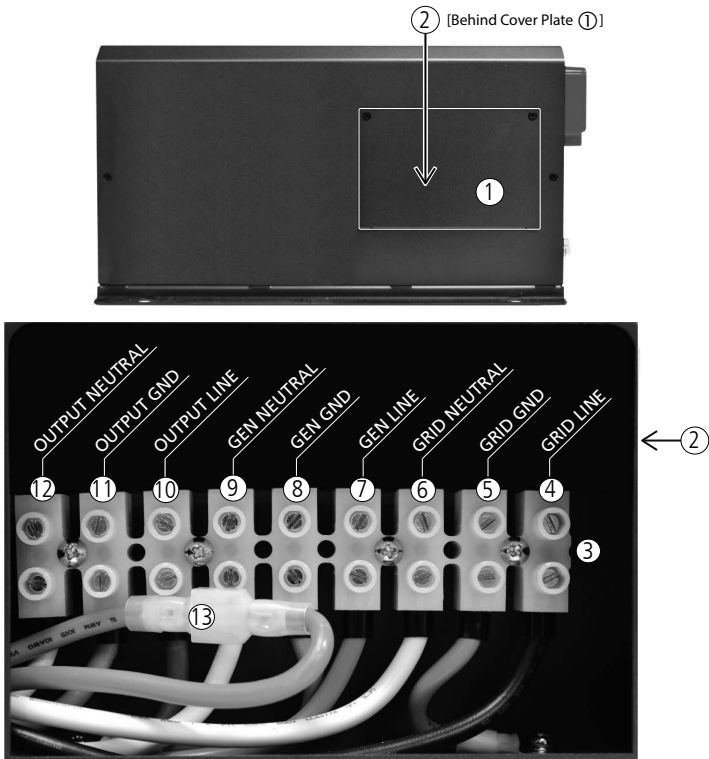

Fig 3.9 AC Input and Output
AC side layout and connection arrangement are shown in Fig 3.9.
- **Disabling Neutral to Ground Bond:** In some applications, the Output Neutral may be required to remain isolated from chassis/Ground at all times. For this, automatic Output Neutral to chassis Ground bond can be disabled by disconnecting the Male/Female Disconnect (13, Fig 3.9) located in the AC Wiring Compartment.
The AC input and output supply connections are located in a pocket protected by a cover with a removable front plate (1,2 Fig 3.9). Three 27.8mm / 1¹/₃₂” diameter holes (10A to 10C, Fig 2.1) have been provided for cable / conduit entry. Remove the caps covering the holes and install appropriate 3/4” Trade Size Fitting for routing the AC input and output wires/conduits.
Screw down type of terminal block (3, Fig 3.9) is used for connecting the wires. The hole size for wire entry is 6 mm and set screw size is M4. It can accommodate conductors with solid or multi-stranded wire size range of AWG #6 to AWG #20 (13.3 mm² to 0.5mm²).